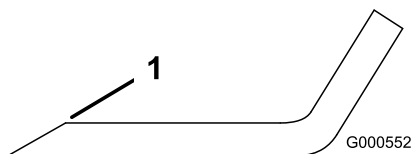
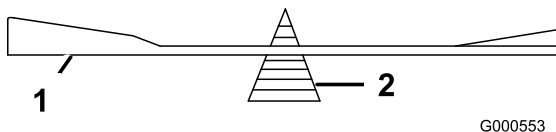

Figure 52
Figure 53
- Use a file to sharpen the cutting edge at both ends of the blade (Figure 52). Maintain the original angle. The blade retains its balance if the same amount of material is removed from both cutting edges.
- Check the balance of the blade by putting it on a blade balancer (Figure 53). If the blade stays in a horizontal position, the blade is balanced and can be used. If the blade is not balanced, file some metal off the end of the sail area only (Figure 52). Repeat this procedure until the blade is balanced.